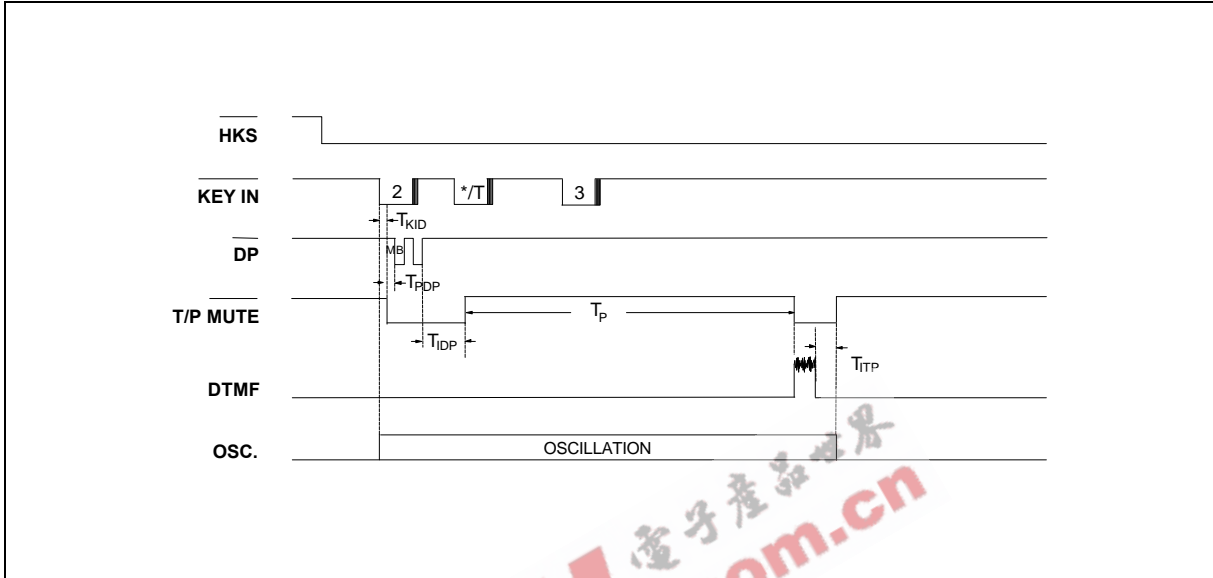

Figure 5. Pulse-to-Tone Timing Diagram
4. The function timing diagram is shown in Figure 5.